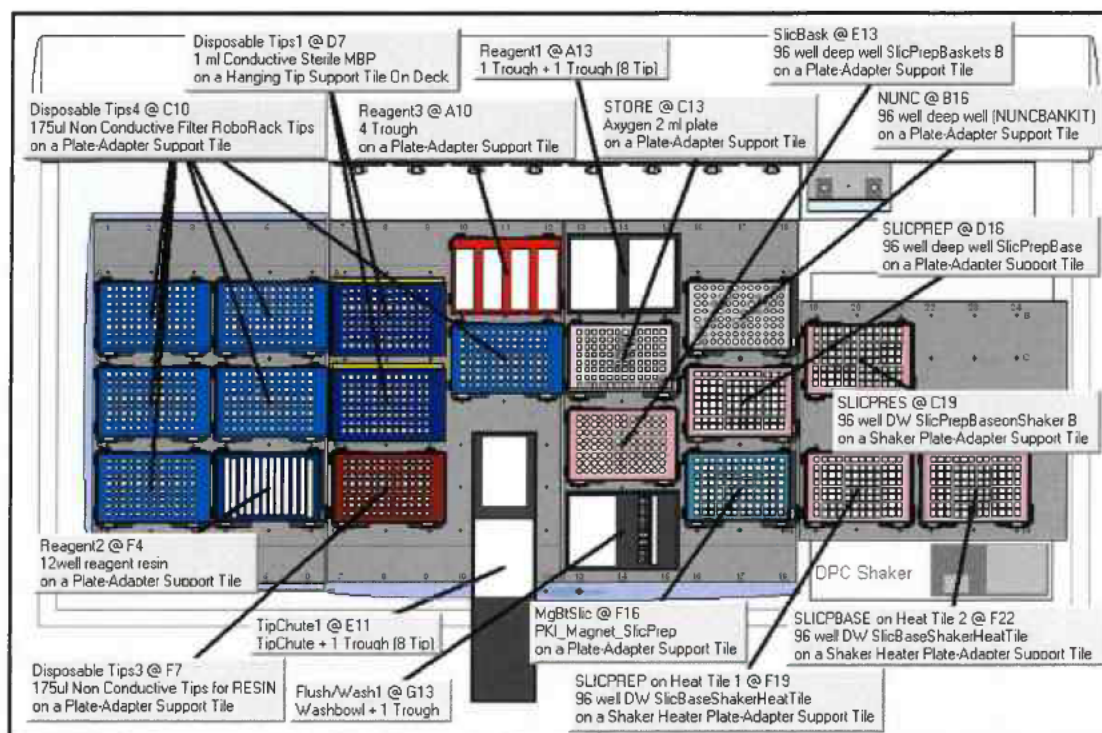

Figure 2. The WinPrep® virtual deck view displaying the necessary labware required for the Automated DNA IQ™ Method of Extraction on Extraction Platform A.
12. Decontaminate the required labware by wiping with 5% TriGene followed by 70% ethanol before placing the labware on to the designated grid positions as outlined in the virtual deck view within WinPrep® (Figure 2).